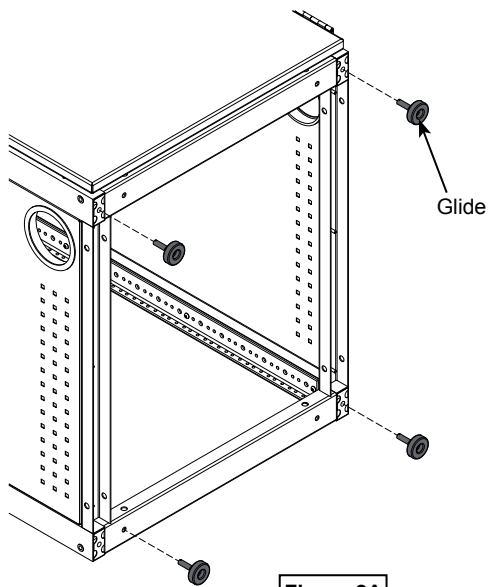

Figure 2A
2. Install the (4) glides onto the bottom as shown. **Figure 2A**. The glides can be adjusted later to level the console.